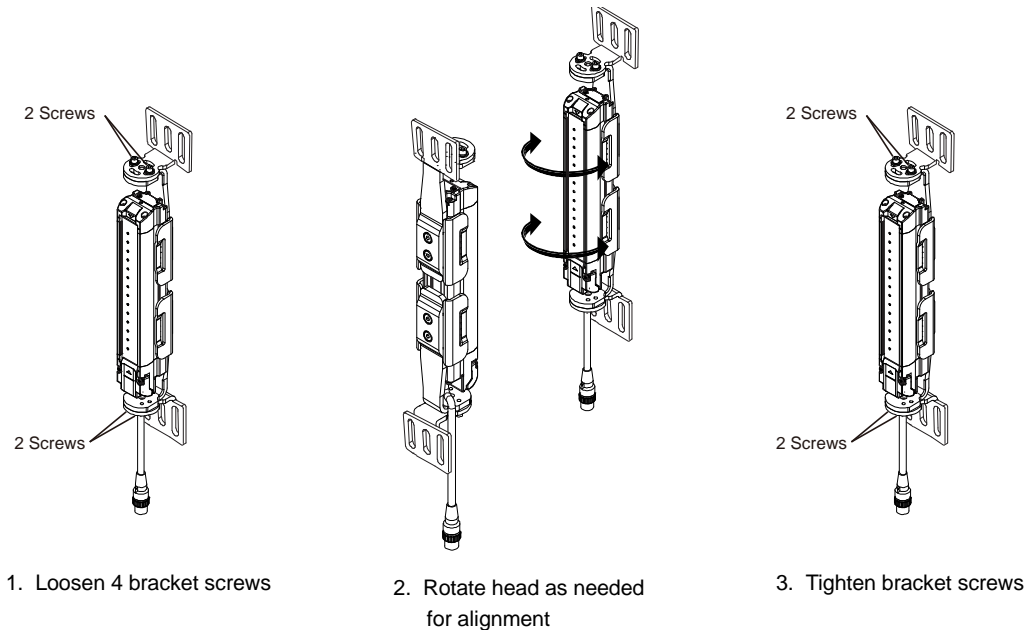

Figure 2-33. Rotating Shadow 9, Standard Mounting Brackets
5. Tighten the mounting hardware on one of the heads so it will not move. Then, watch the LEDs listed in step 4 while you move the other head: swivel it horizontally (Figure 2-33, *below*) and push it up and down vertically to see how tight the alignment tolerances are in order to keep those LEDs illuminated.